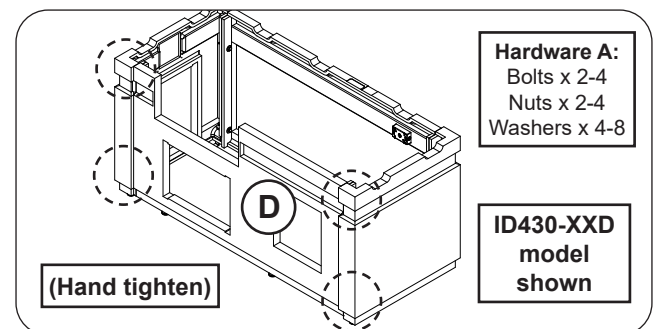

Fig. 8-5 Assemble front wall
1. Orient the front wall (D) and repeat the hardware installation process (hardware kit A). Hand tighten only. See Fig. 8-5.